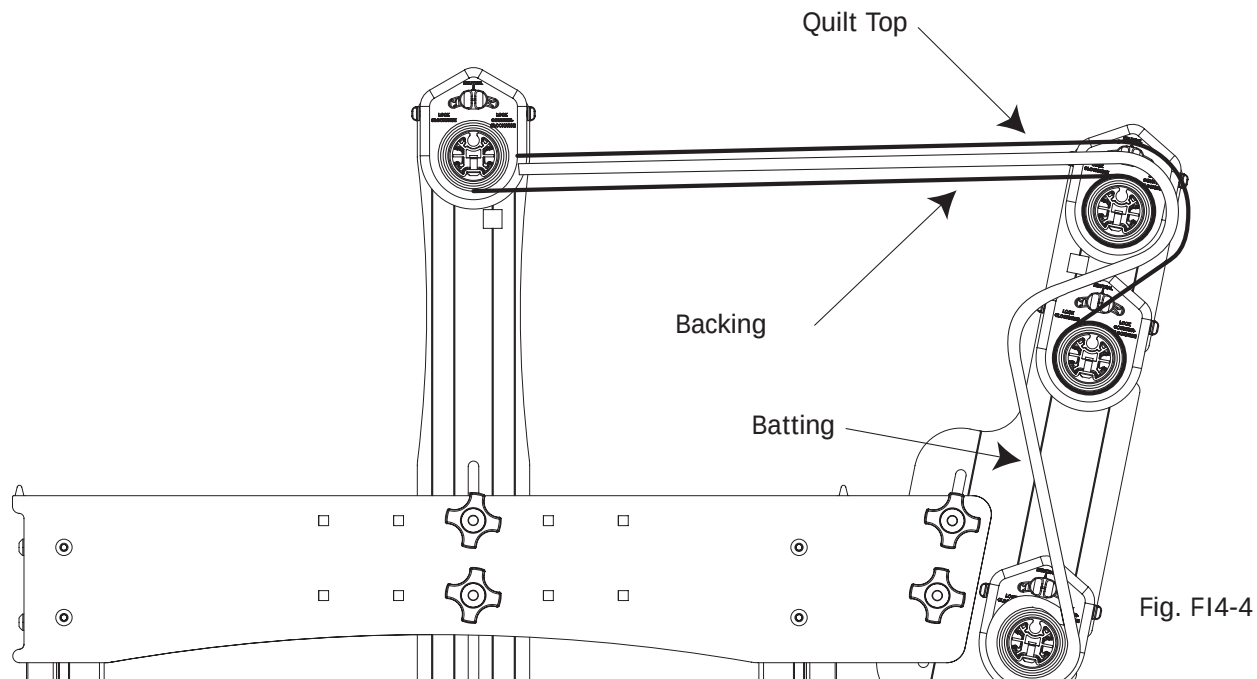

Fig. FI4-4
Step 4: Attaching Quilt Layers to the Take-Up Rail (See Fig. FI4-4).